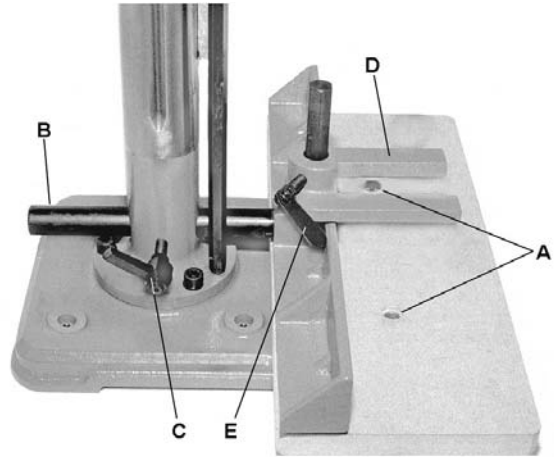

Figure 3
5. Attach the table to the base using two screws (A, Figure 3).
6. Insert bar of fence assembly (B, Figure 3) through the hole in the column. Use the fence-locking handle (C, Figure 3) to adjust fence assembly.
7. Attach the hold down (D, Figure 3) to the vertical post using locking handle (E, Figure 3).